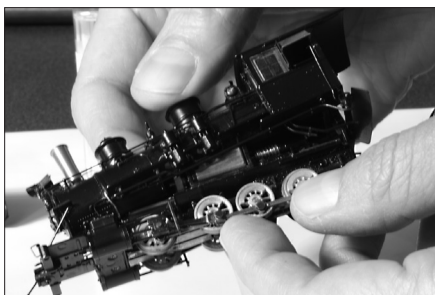

Figure 15 - Gently pry the boiler away from the chassis. Watch for the detail parts!
7. Lift the front and rear of the boiler assembly, rocking it gently, and remove the boiler assembly from the chassis as shown in Figure 15. *Please note that the cab rear handrails, and the cylinder cock wire attached to the cab front, all need special care when separating the boiler from the chassis.*